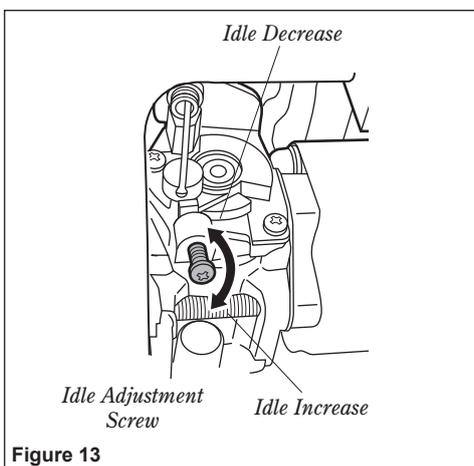

Figure 13
2. If a tachometer is available, the engine idle speed should be final adjusted to 2,000 (± 200) RPM (min^{-1}). See Figure 13.